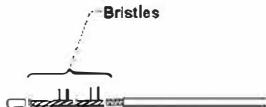

Figure 2 Missing bristles (Gap)
- Some examples of damages to look for are depicted on Figures 2 to 7 and may include but are not limited to: bent or cracked catheter, missing Bristles, Brush or Squeegee. This inspection is the responsibility of the user. Worn out bristles and wiper disks are ineffective in cleaning, and damaged devices may damage the endoscope. DO NOT USE THESE DEVICES, SAVE THEM AND CONTACT AUTHORIZED DISTRIBUTOR FOR A RETURN AUTHORIZATION.